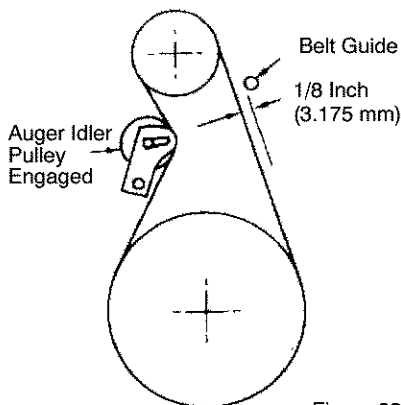

Figure 22
3. Measure the distance between the belt guide and belt. The distance should be 1/8 inch (3.175 mm) for guide. See Figure 22.